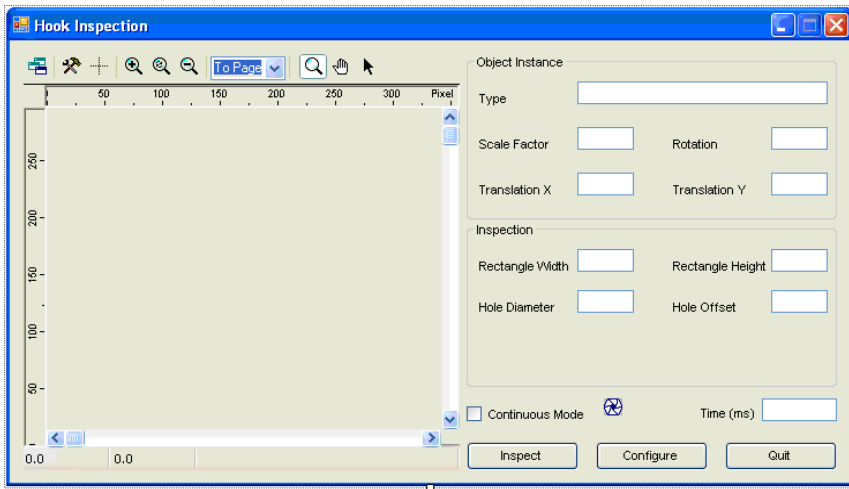

Figure 102 C# Form for Tutorial 4
1. On your application form, add two text boxes. Name the first one **DiameterText** and the second **OffsetText** and add appropriate labels. Set up your form as illustrated in Figure 102.